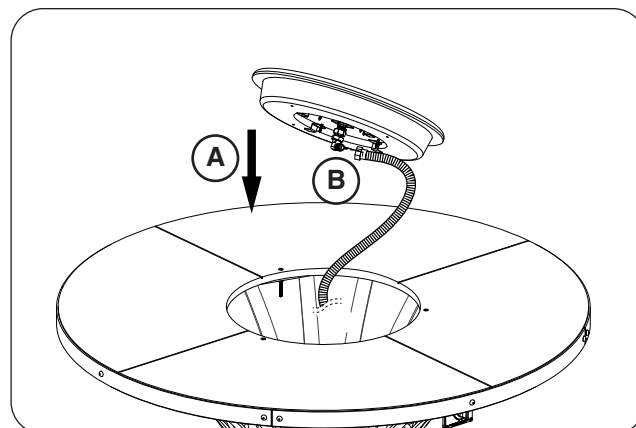

Fig. 34-4 Place burner and connect flex
6. Drop the burner assembly into the opening in the center of the firetable top (see Fig. 34-4, A).
7. Locate the flex connector (marked **OUT**) that is coming off the valve assembly. Route it to the connection found on the underside of the burner assembly and connect. Tighten securely. See Fig. 34-4, B.